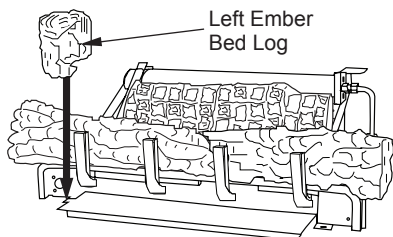

Figure 41 - Installing Left Ember Bed Log
- Place left ember bed log (18" D-073, 24" & 30" D-048) as shown in Figure 41. The log has groove on one side that sets on the ember bed pan. The back side of this log needs to rest against the front of the base assembly. Make sure the flame from the ember pan does not touch the ember bed log.